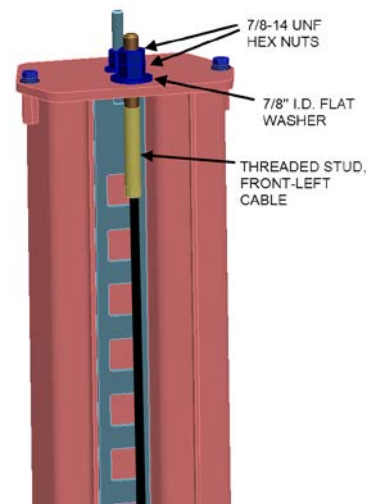

Figure 45
- Anchor threaded end of the front left cable into the top plate of the front left tower (**Fig.45**). Use one 7/8” ID flat washer and two 7/8-14 UNF hex nuts (see hardware kit).
- Anchor threaded end of the front right cable into the top plate of the front right tower. Use one 7/8" ID flat washer and two 7/8-14 UNF hex nuts (see hardware kit). Refer to **Fig.45**.